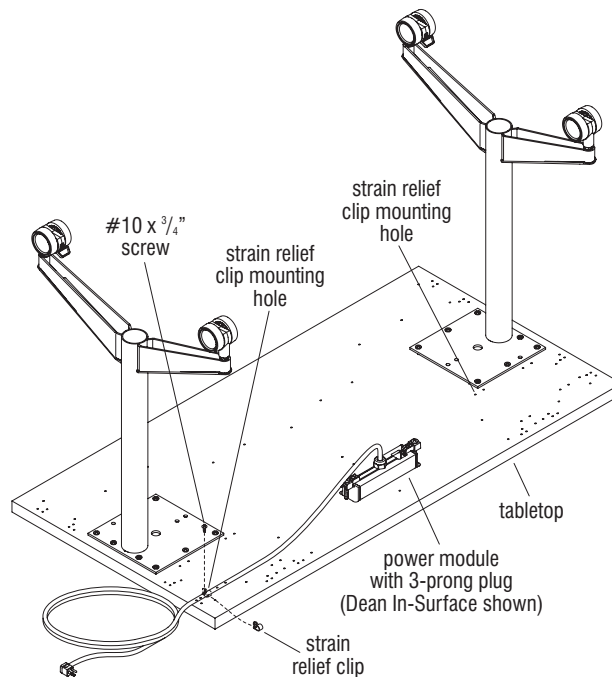

Figure 4
1. Locate strain relief clips and position them at the desired locations above unused pre-drilled holes (Figure 4 & Detail C).
2. Insert the cable into the openings of the clips. Secure the clips to the tabletop using one #10 x 3/4" screw per clip (Figure 4 & Detail C).